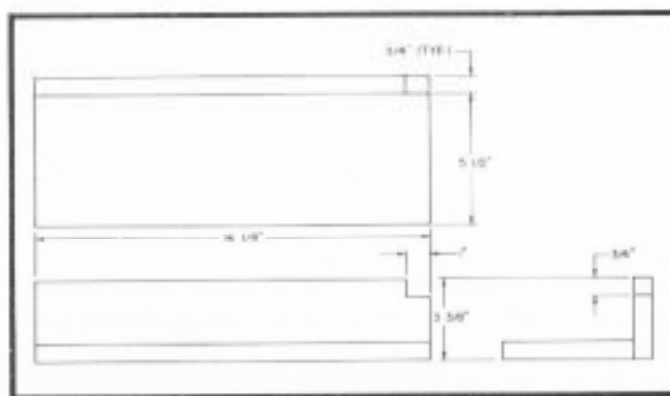

Fig. 66
1. For the Delta 34-080 miter box, construct the fence and table support by following the dimensions shown in Fig. 66.